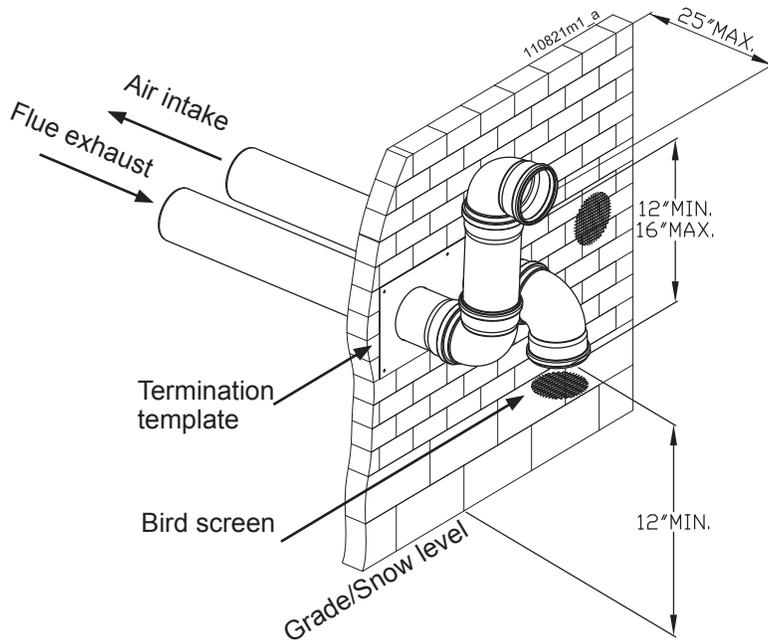

Figure 12-15 Two pipes sidewall termination of air and vent
3. The vent piping must terminate in an elbow pointed outward as shown in Figures 12-15 or 12-16 or in a roof as shown in Figure 12-22.
Do not exceed the maximum lengths of the outside vent piping shown in Figures 12-15, 12-16 or 12-22. Excessive length exposed to the outside could cause freezing of condensate in the vent pipe, resulting in potential heater shutdown.
3. The air piping must terminate in a down-turned elbow as shown in Figures 12-15 and 12-16. This arrangement avoids recirculation of flue products into the combustion air stream.
4. The vent piping must terminate in an elbow pointed outward or away from the air inlet, as shown in Figures 12-15 and 12-16.
! WARNING!!! Do not exceed the maximum lengths of the outside vent piping shown in Figures 12-15 and 12-16. Excessive length exposed to the outside could cause freezing of condensate in the vent pipe, resulting in potential heater shutdown.
5. Maintain clearances as shown in Figures 12-15 and 12-16. Also maintain the following:
1. The air termination coupling must be oriented at least 12 inches above grade or snow line as shown in Figures 12-15 and 12-16.
2. Maintain the required dimensions of the finished termination piping as shown in Figures 12-15 and 12-16.
3. Do not extend exposed vent pipe outside of the building more than what is shown in Figures 12-15 and 12-16. Condensate could freeze and block vent pipe.